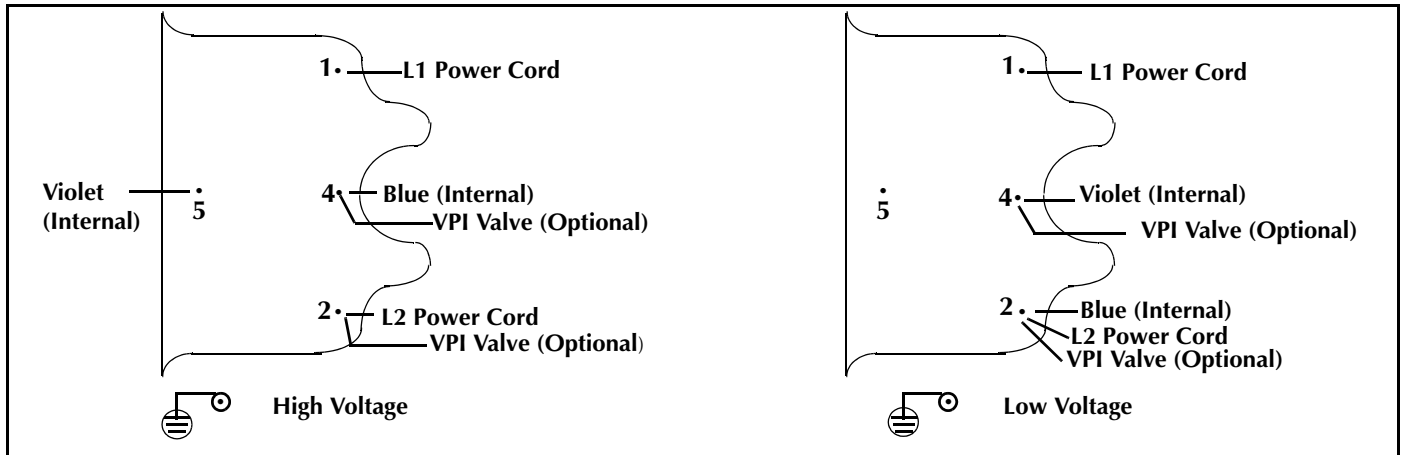

Figure 4 Single Phase Motor Electrical Connections
The pump can be configured for low voltage or for high voltage. As supplied from the factory, the pump is configured for low voltage. Figure 4 shows the electrical connections for a single phase motor.
3. Refer to Figure 4 to connect the motor to match your supply voltage.
4. Wire L1 and L2 per Figure 4 using right angle flag connectors or ring connectors.
7. Replace the motor electrical cover and secure it with the three (3) screws removed in step 2.
Using the data in Table 4, verify that the VPI Valve chosen is compatible with the TriScroll supply voltage and frequency. Then, locate the proper wiring diagram to use (Figure 4 on page 13).
2. Connect the VPI Valve solenoid wire leads to the pump motor as shown in Figure 4.